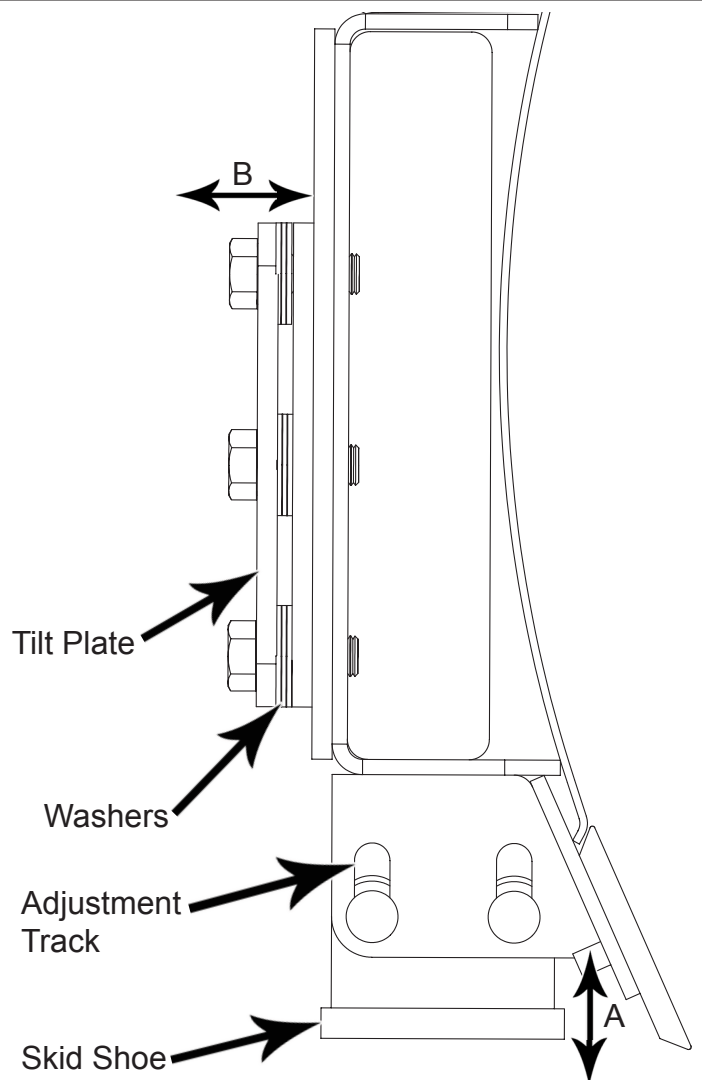

Figure 1
2. Loosen nuts and set skid shoe depth by sliding the shoe up and down in direction 'A' shown in Figure 1.
2. Add or remove washers as needed to adjust tilt-way clearance to have 1/16" - 1/8" of clearance in direction 'B' shown in Figure 1.